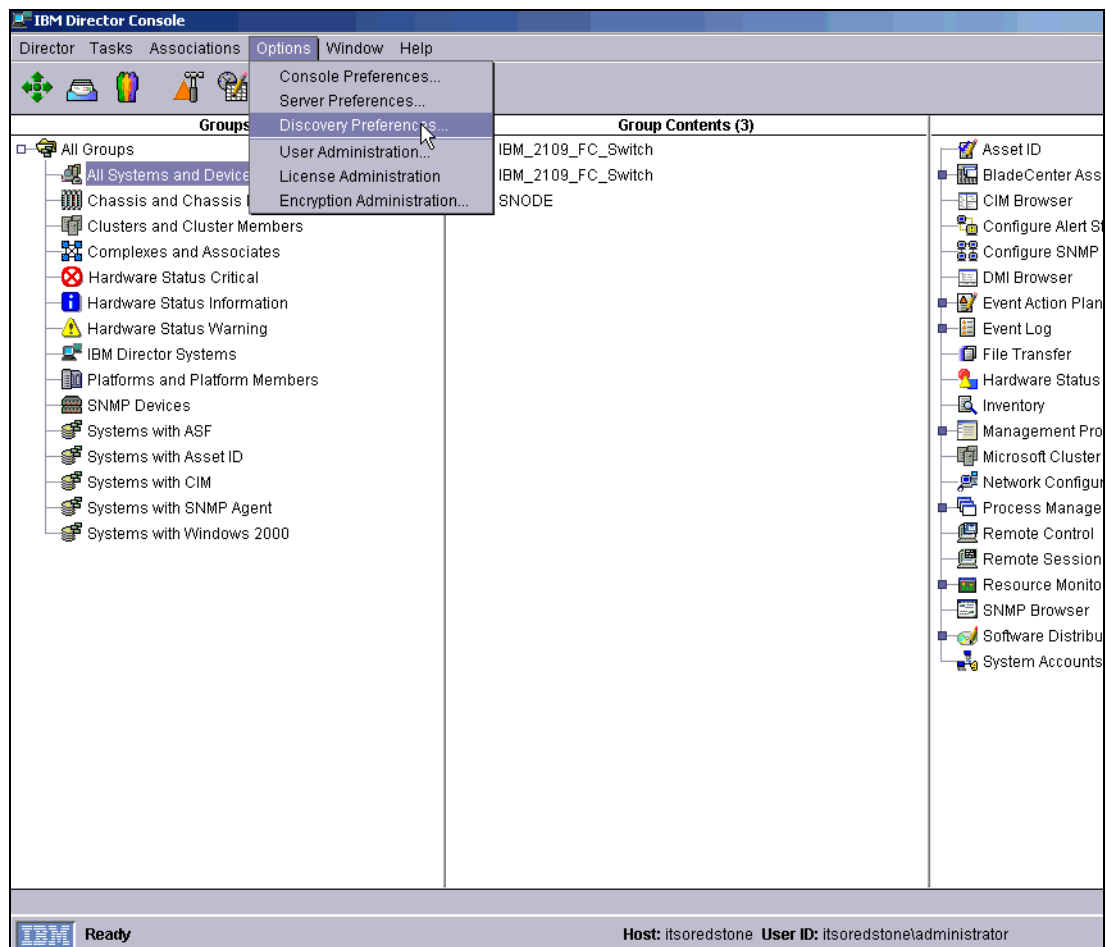

Figure 14-29 IBM Director Discovery Preferences
3. After IBM Director becomes active, select **Options -> Discovery Preferences** as shown in Figure 14-29.